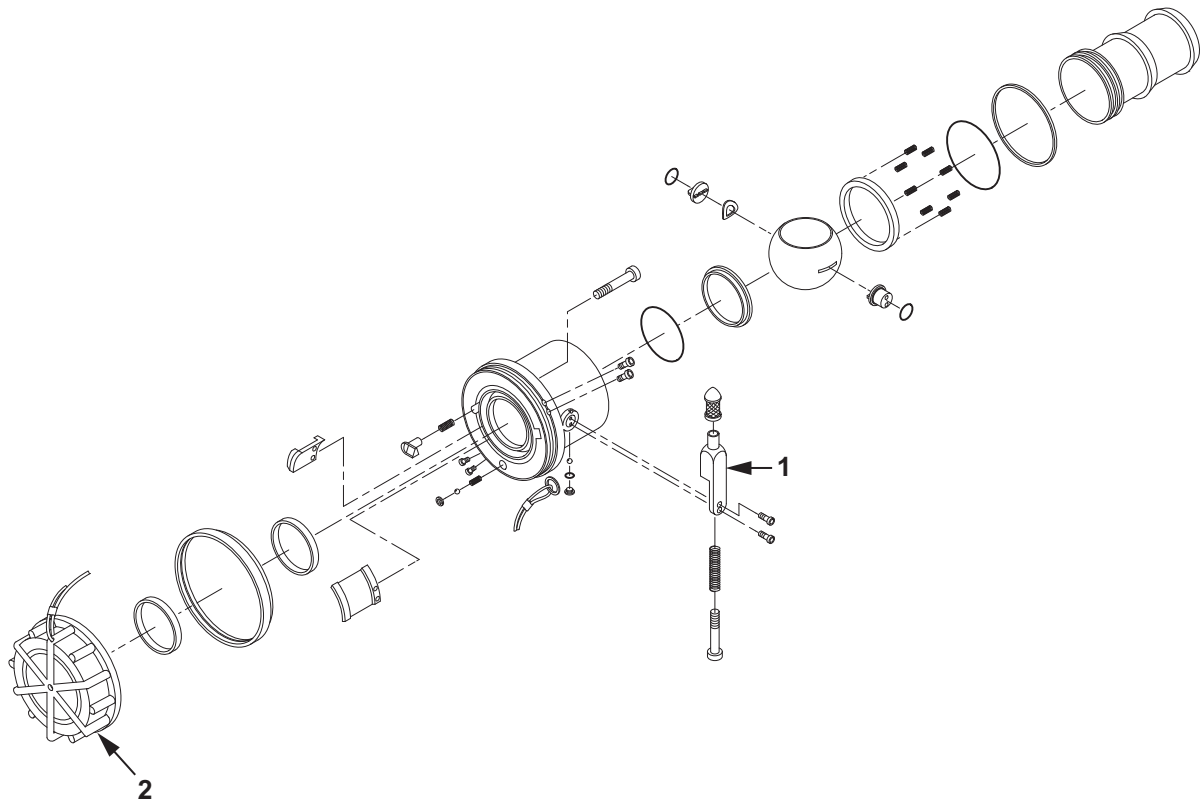

Figure 4. Valved Dry-Break Coupling Testing.
2. While the couplings are connected, rotate control arm (Figure 4, Item 1) to the open position and try to disconnect the couplings by rotating in a counterclockwise direction. If the couplings disconnect, then repair of the valved dry-break coupling assembly is required.
3. Close the control arm (Figure 4, Item 1) and disconnect the valved dry-break coupling assemblies by rotating the couplings in a counterclockwise direction.
6. With the control arm (Figure 4, Item 1) in the open position, apply pressure of 5 PSI (34.47 kPa) to the repaired valved dry-break coupling assembly.
10. Close the control arm (Figure 4, Item 1) and disconnect the repaired valved dry-break coupling assembly from the similar valved dry-break coupling assembly by rotating the couplings in a counterclockwise direction.
12. With the control arm (Figure 4, Item 1) in the closed position, apply pressure of 5 PSI to the repaired valved dry-break coupling assembly.
15. Reduce pressure from the test system, remove repaired valved dry-break coupling assembly from the test system and install dust cap (Figure 4, Item 2).